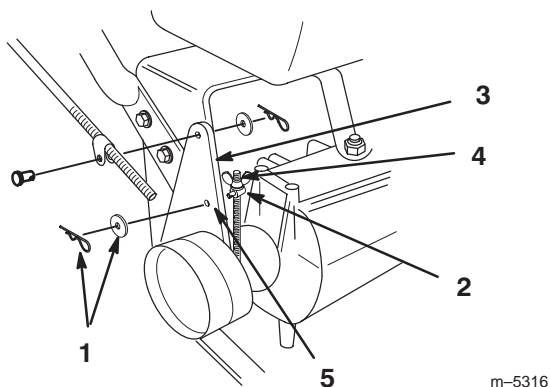

Figure 39
3. To adjust the brake remove the cotter pin and washer from the brake lever (Fig. 39).
4. Rotate the trunnion so it smoothly slides into brake lever hole “F” (Fig. 39). Tighten wing nut.
5. Secure trunnion to brake lever with washer and cotter pin (Fig. 39).